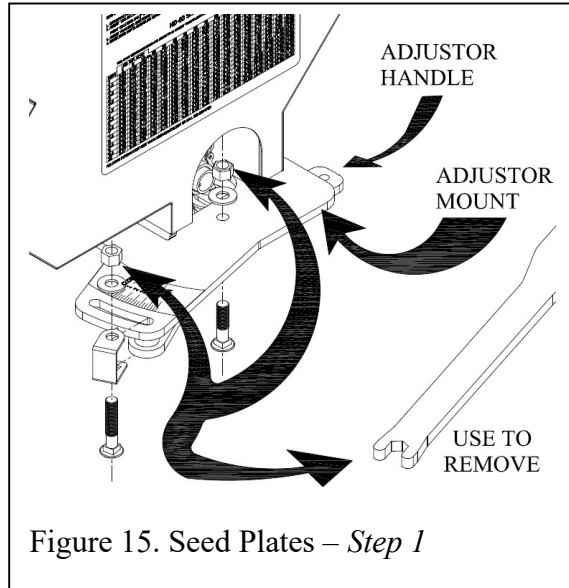

Figure 15. Seed Plates – Step 1
2. To change plates you will need two 9/16" wrenches and the Adjuster Wrench, DS27-026. Using the small end of the Adjuster Wrench, located on top of chain cover as shown in Figure 13. Loosen and remove the two 1/2" carriage head bolts connecting the adjuster handle to the Adjuster mount as shown Figure 15.